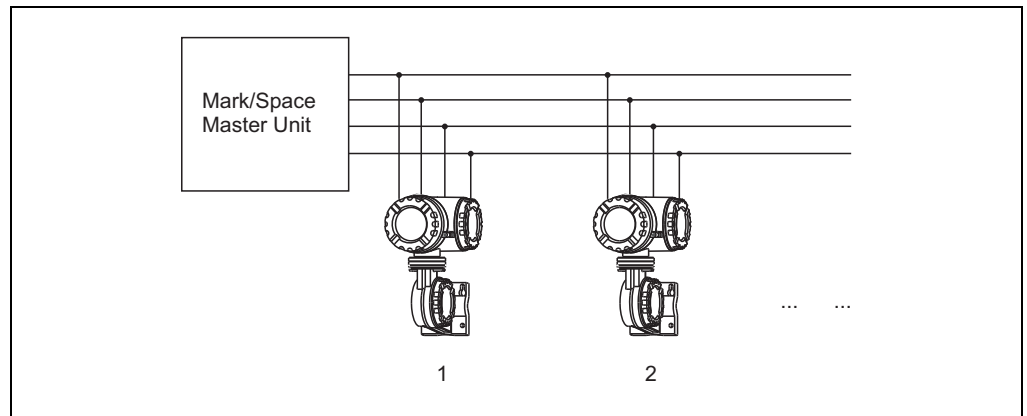

Figure 3-1: Mark/Space Master Units
- Connect the units in parallel as shown in Figure 3-1.